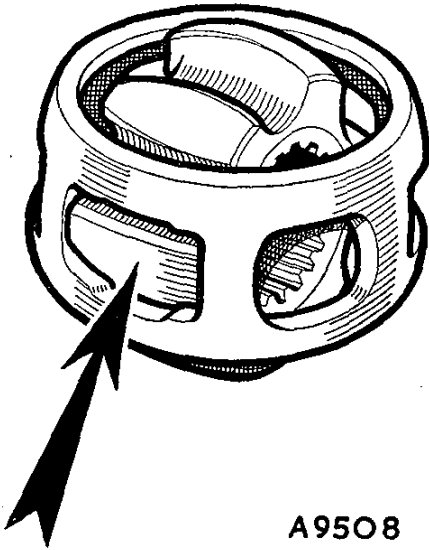

Fig. G.4
- (9) Swivel the inner race at right angles to the cage and turn it until two of the lands between the inner race tracks are opposite elongated windows in the cage. One land will drop into a window, allowing the inner race to be extracted from the cage (Fig. G.4).
- (16) This is an exact reversal of the dismantling procedure. All components should be lightly lubricated with Duckham's M-B grease (BMC pack AKF 1457). The components should go together easily and no force should be required.
- (17) Insert the inner race into the cage by introducing one of the lands into an elongated window in the cage (Fig. G.4).